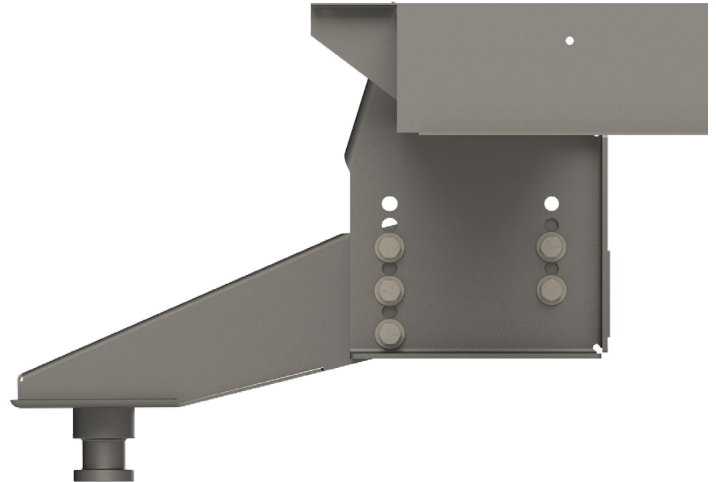

Fig.1
6. Remove Rhino pin box from the mounting wing (Fig.1).